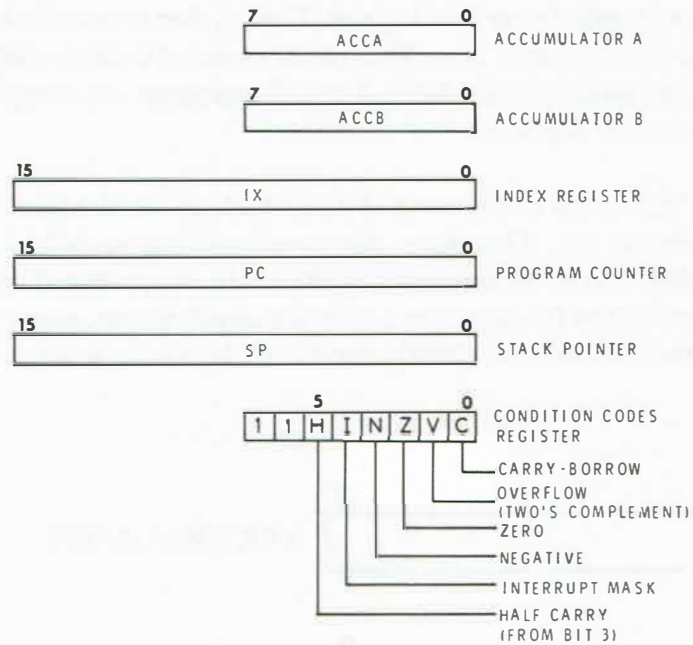

Figure 6-3
The 6808 MPU is much more complex than our hypothetical MPU. Consequently, a programming model of the 6808 makes a good starting point. The programming model is shown in Figure 6-3.
**Condition Code Registers**—The 6808 MPU has six condition codes. Four of these are almost identical to those discussed in Unit Five. As you recall, these include the negative (N), zero (Z), overflow (V) and carry (C) condition codes. One difference arises, however, because there are two accumulators in the 6808 MPU. Thus, the carry (C) flag is set whenever there is a carry from either accumulator. By the same token, an overflow in either accumulator will set the overflow (V) flag. Later in this unit, you will see how the condition codes are affected by each other.
Two new condition codes are shown in Figure 6-3. The (I) flag is called an **interrupt mask**. We will discuss this flag later when you study interrupts. The other is called the **half-carry** (H) flag. The (H) flag is set when there is a carry from bit 3 of the accumulator. The MPU uses this flag to determine how to implement the decimal adjust instruction.